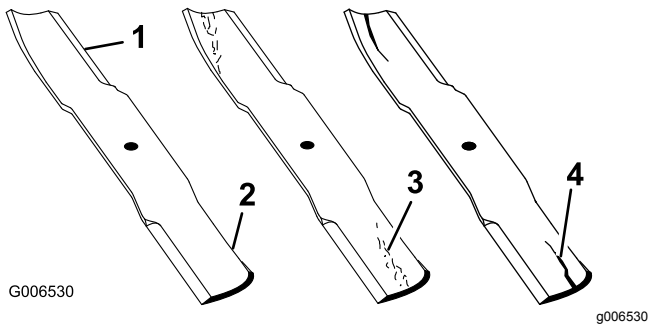

Figure 43
1. Inspect the cutting edges (Figure 43).
2. Inspect the blades, especially the curved area (Figure 43).
Note: If you notice any damage, wear, or a slot forming in this area (item 3 in Figure 43), immediately install a new blade.